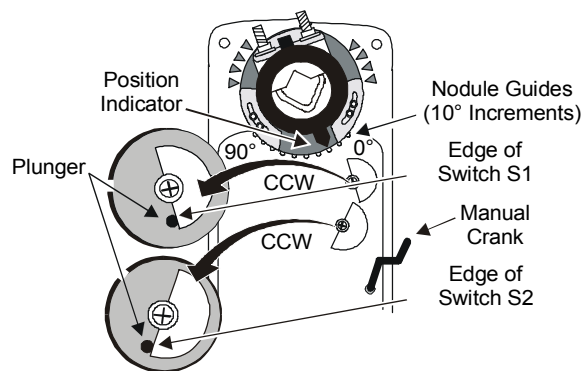

Figure 14: Switch Angle Settings
To change the angle of Switch S1 to 20°, refer to Figure 14 and proceed as follows:
3. Rotate Switch S1 CCW, aligning the edge of the switch with the plunger until the plunger rises. (See Figure 14.)
To change the angle of Switch S2 to 70°, refer to Figure 14 and proceed as follows:
2. Rotate Switch S2 CCW, aligning the edge of the switch with the plunger until the plunger rises. (See Figure 14.)